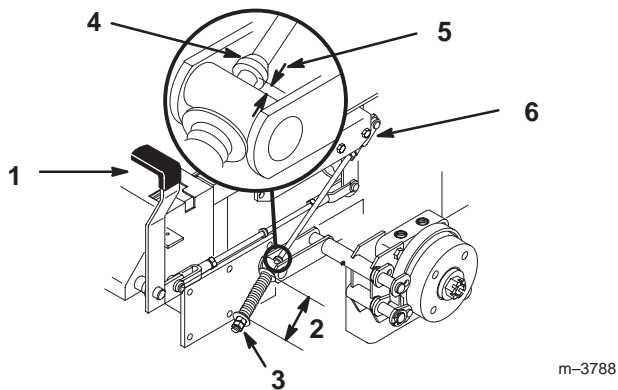

Figure 59
2. Measure the length of the spring. Measurement should be 2-3/4 inch (70 mm) between washers (Fig. 59).
3. If adjustment is necessary, loosen the jam nut below the spring and tighten the nut directly below the yoke (Fig. 59). Turn the nut until the correct measurement is obtained. Tighten the two nuts together and repeat on opposite side of unit.
- A. Measure the distance between the trunnion roller and the collar on brake rod. The measurement should be 3/16-1/4 inch (5-7 mm) (Fig. 59).
6. If adjustment is necessary, loosen the jam nut directly below the yoke. Turn the bottom rod until the correct measurement is obtained (Fig. 59). Tighten jam nut at yoke